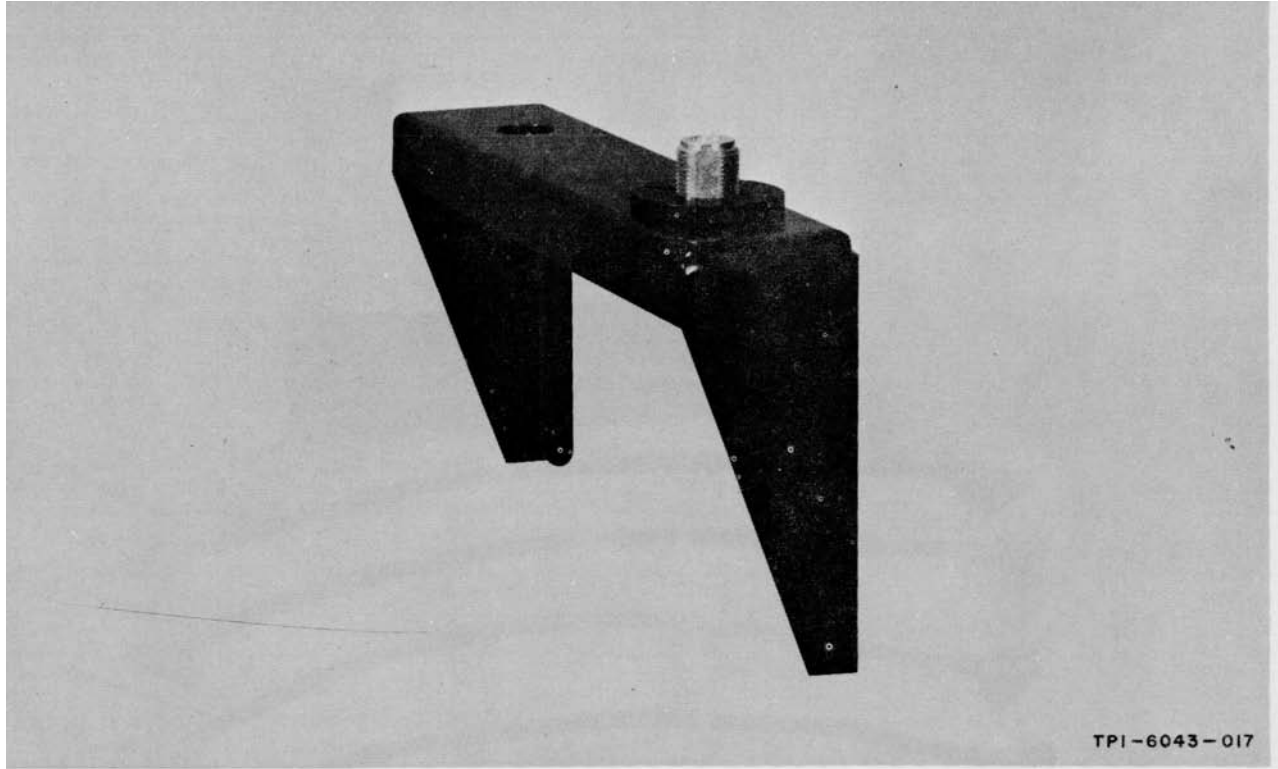

Figure 1-10. Antenna Mounting Bracket
(5) ANTENNA MOUNTING BRACKET. (Refer to figure 1-10.) - The antenna mounting bracket permits vertical mounting of Antenna AS-1404/PRC-41 (omnidirectional) in a vehicular installation. It is normally mounted on the rear of Mounting MT-2976/ PRC-41 but may be secured to any flat vertical surface by four screws or bolts. The antenna mounting bracket has a UG-30D/U feedthrough connector. The upper part of this connector fits AS-1404/PRC-41, end the lower part mates with a connector on Radio Frequency Cable Assembly CG-55G/U.